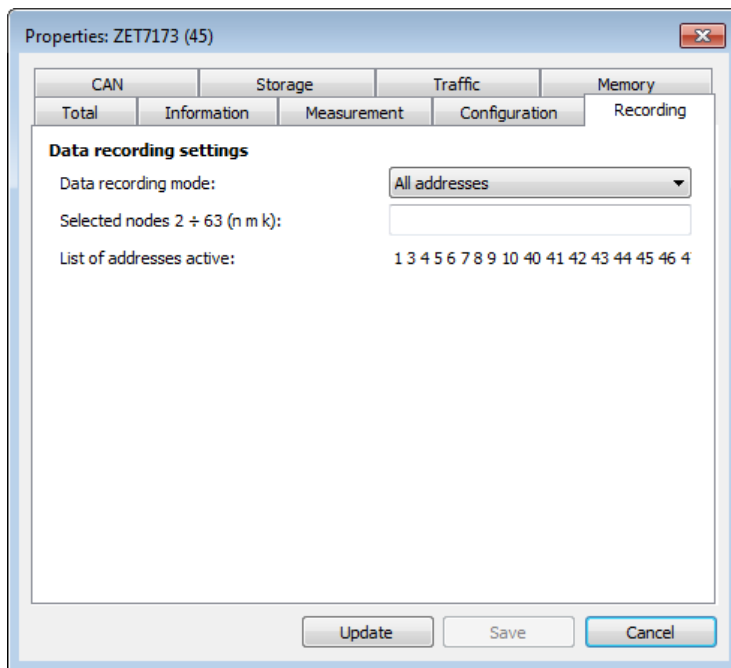

Figure 2.14 ZET 7173 – “Recording” tab
- Select “All addresses” in the field “Data recording mode” of the “Recording” tab (Figure 2.14).